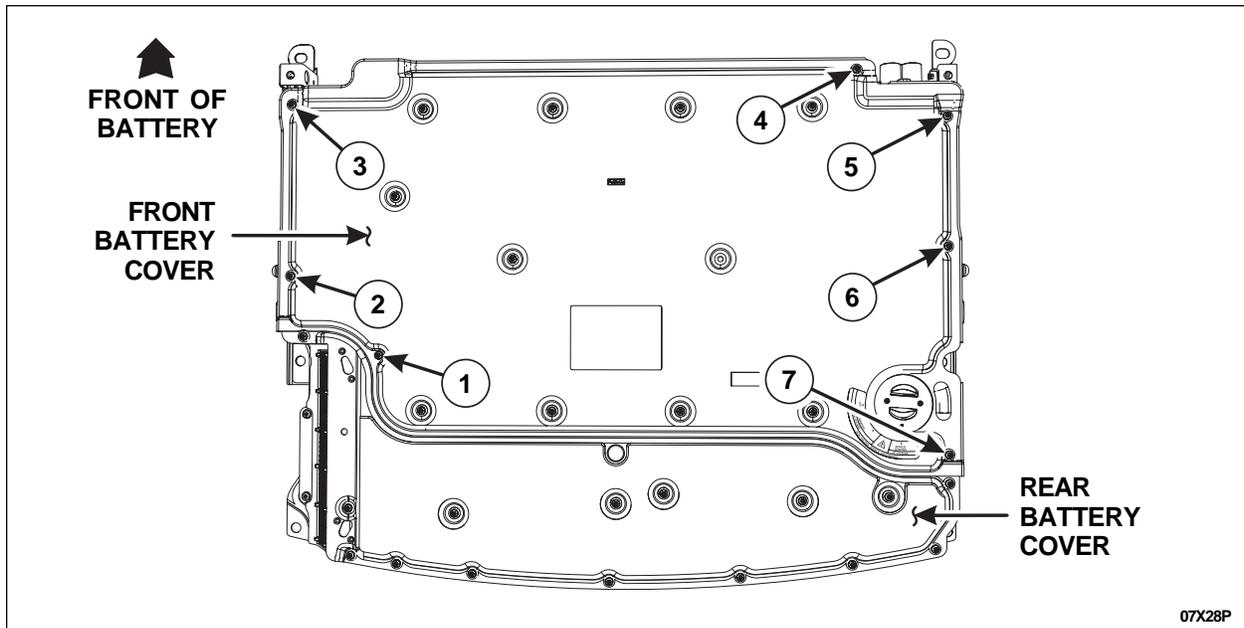

FIGURE 18
26. Tighten the remaining 7 Torx screws in the front battery cover to 3 Nm (26 lb-in) in the sequence shown in Figure 18.